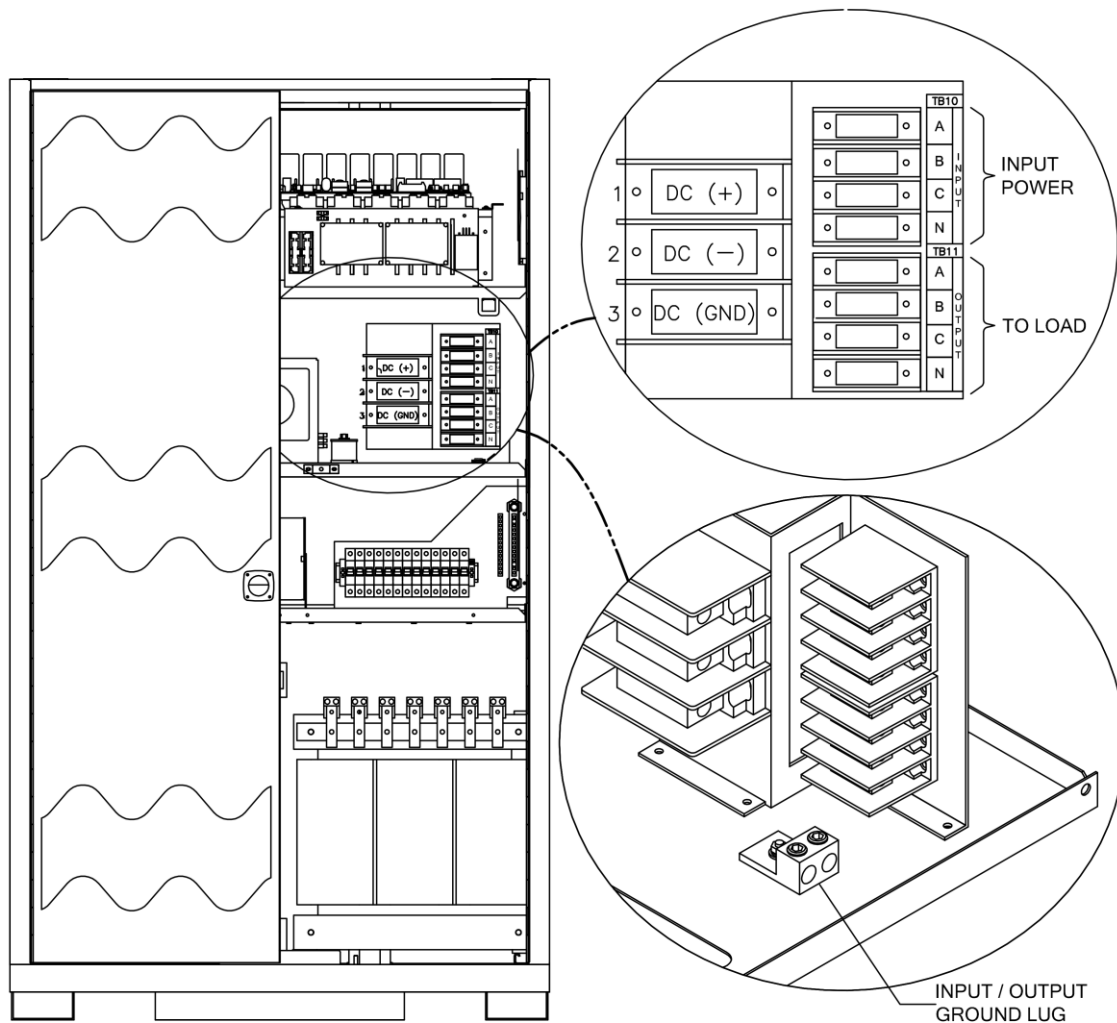

Figure 4-12 Customer Connections to the Input / Output / Battery (DC) Terminal Block and Ground (Typical)
2. Connect the main load to TB11 (Output Terminal Block) as shown on Figure 4-12.